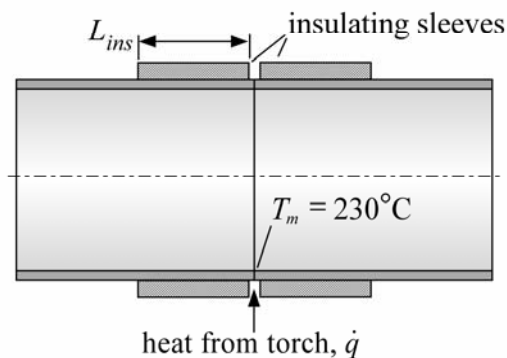

Figure 3: Tubes with insulating sleeves placed over them to reduce the heat transfer required.
b.) Unfortunately, the propane torch cannot provide 812 W and therefore it is not possible to melt the solder. Therefore, you decide to place insulating sleeves over the pipes adjacent to the soldering torch, as shown in Figure 3.